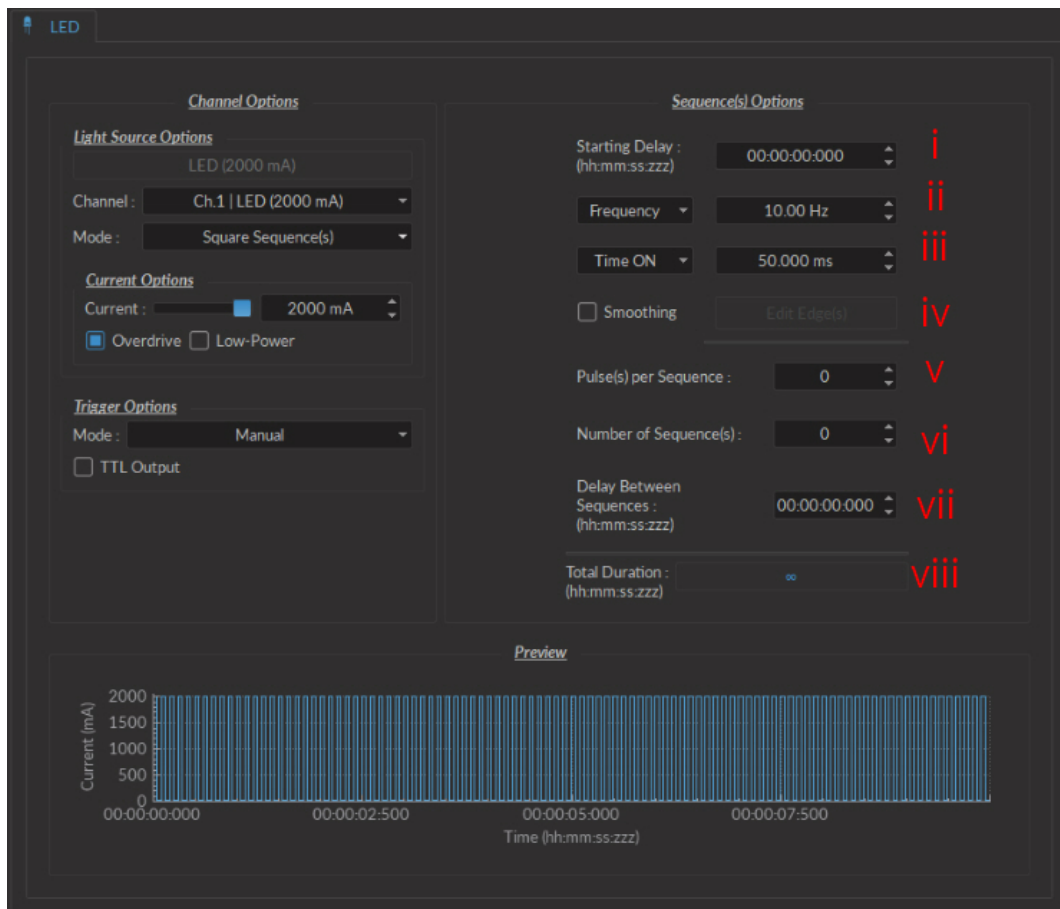

Figure 4.6: Light Source Channel Configuration Window, square sequence options
- The **Starting Delay** (Fig. 4.6) sets the delay (in hh:mm:ss:zzz format) before the first pulse.
- The **Frequency/Period** (Fig. 4.6) sets the frequency (in Hz) or period (in ms) for the pulse sequence. For example, a signal at 10 Hz (frequency) will output one pulse every 100 ms (period), whereas a pulse sequence at 0.5 Hz (frequency) will output one pulse every 2000 ms (period).
- The **Time ON/Duty Cycle** (Fig. 4.6) sets the time (in ms) or the duty cycle (in %) for each pulse. The **Time ON** must be lower than $(1/\text{frequency}) + 0.005$ ms, while the **Duty cycle** must be below 100 %. These squares will appear red should an impossible **Frequency/time ON** be selected. Should the **Smoothing** option be selected, this feature becomes inaccessible.
- v. The **Pulses per sequence** (Fig. 4.6) sets the number of pulses per sequence. If it is set to 0, the pulse will be repeated indefinitely.
- vi. The **Number of sequences** (Fig. 4.6) sets the number of times that the sequence will be repeated. If it is set to 0, the sequence will be repeated indefinitely.
- vii. The **Delay between sequences** (Fig. 4.6) sets the delay (in hh:mm:ss:zzz format) between each sequence if the **Number of Sequences** is greater than 1.
- viii. The **Total Duration** (Fig. 4.6) displays the total time of the experiment. The different values can be *Inf* for infinite, a valid time value or *Err* if the **Time ON** value is greater than 1/frequency.